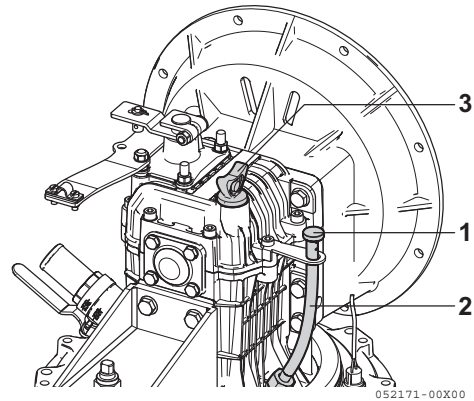

Figure 11
- Oil change must be done removing the plug (1, **Figure 11**) from the oil suction pipe (2, **Figure 11**).
- Push hose of hand pump (4, **Figure 12**) through the suction pipe (2, **Figure 11**) and suck the fluid off.
- Un-screw the oil dipstick (3, **Figure 11**).
- Screw in the oil dipstick (3, **Figure 11**).